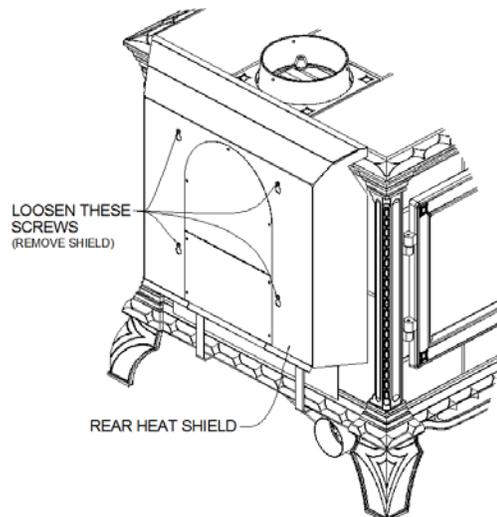

Figure 10
- 5) Attach the filler plate to the heat shield. Align the holes in the filler plate with the holes on the heat shield and attach using the #8-32 screws provided. **(NOTE: if the chimney connector pipe is already installed the filler plate must be reattached after the heat shield is installed.)** Align the holes in the heat shield with the (4) screws on the heat shield mounting bracket (already installed on stove). Pass the screws through the heat shield holes and slide the heat shield down to catch the screws into the slots. Tighten the screws to hold the heat shield securely in place (see illustration on previous page).
- 7) Loosen the screws that mount the heat shield extension (Figure 10).